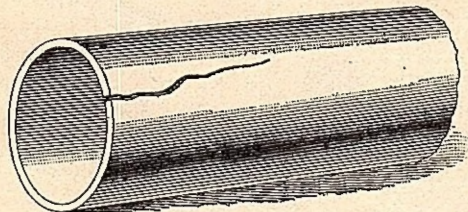

FIG. 5
4. When a pipe splits, as shown in Fig. 5, while being cut, it usually proves that the pipe is defective; a pipe thus split should be rejected.